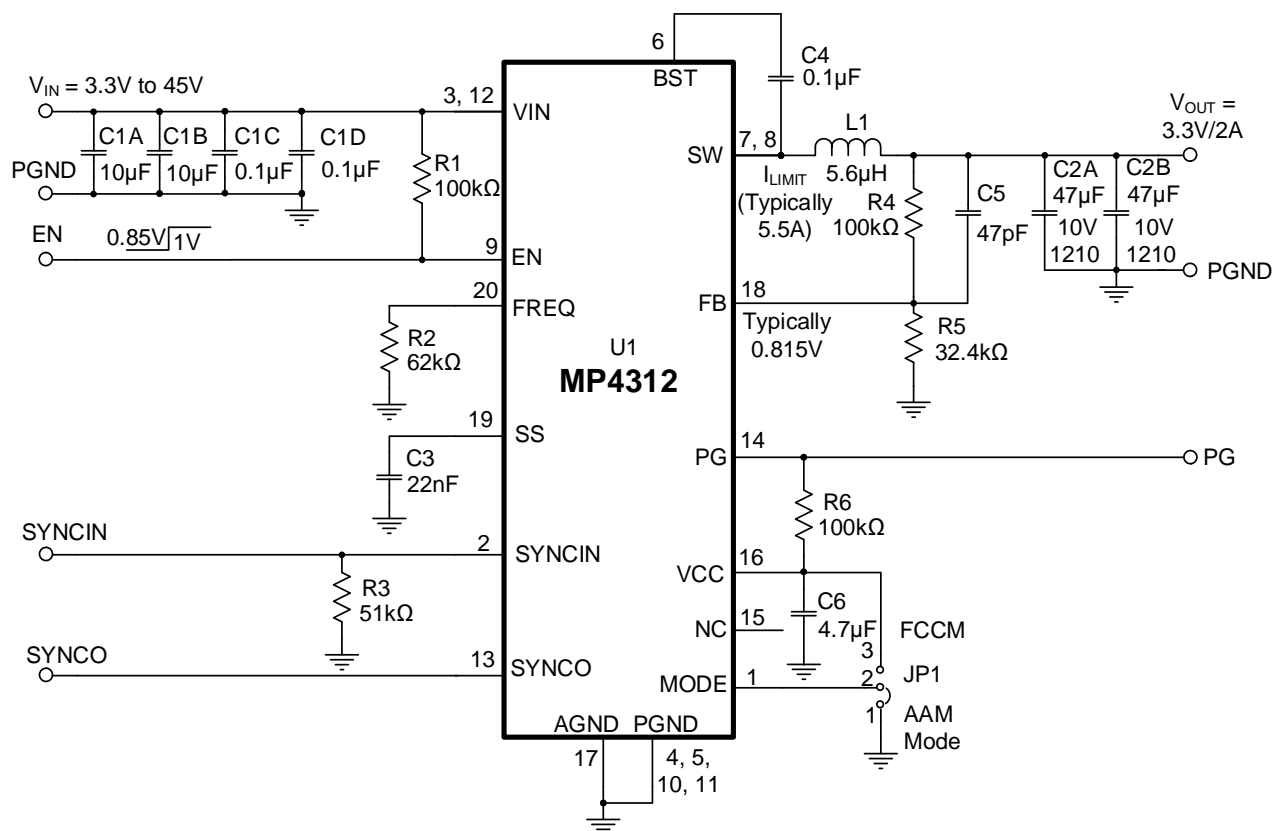

Figure 10: Typical Application Circuit ($V_{OUT} = 3.3V$, $f_{SW} = 470kHz$)
- 10) The recommended PCB layout is based on Figure 10 on page 34.